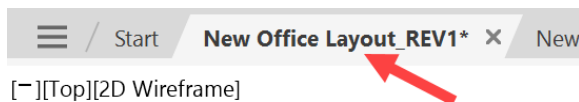

Figure 14.3: The current drawing indicated in the file tab
1. As shown in *Figure 14.3*, ensure the *New Office Layout\_REV1.dwg* is current in the file tabs underneath the ribbon. It should be displayed in bold on the file tab. If it isn't bold, click on it to make it current.